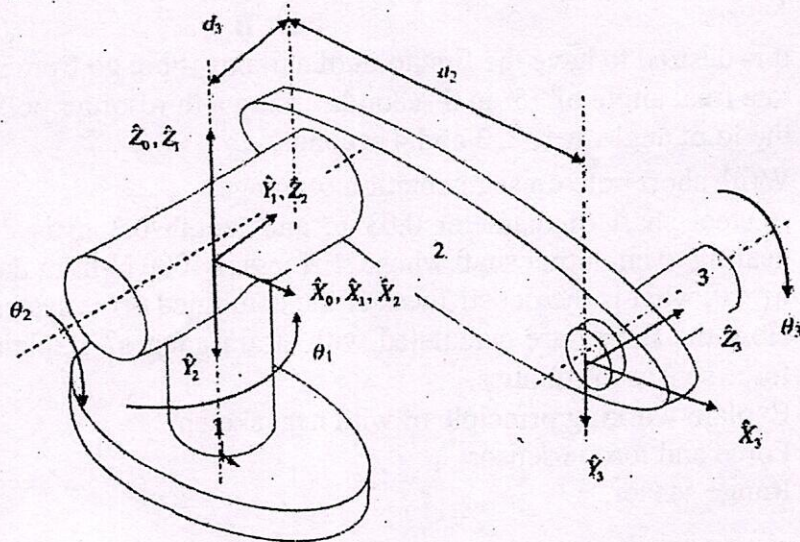

Fig. 1
- 3 a) Find the jacobian of the linear velocities of the RRR manipulator as shown in the fig. 1 5